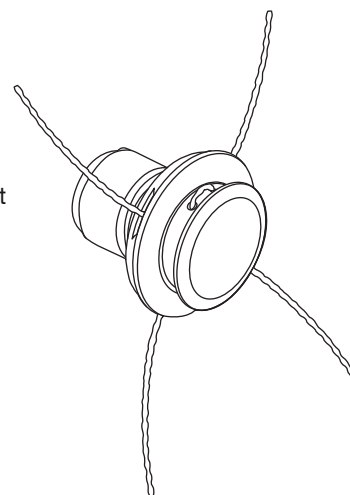

Fig. 13
CAUTION: Before operating this unit, be sure that the release button is fully snapped into the primary hole (Fig. 12), and that the knob (Fig. 13) is securely tightened.
8. Correctly installed, the four lines will all be the same length (Fig. 13).
8. Reinstall the air filter/muffler cover (Fig. 13).